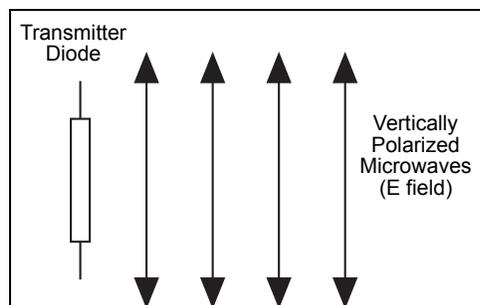
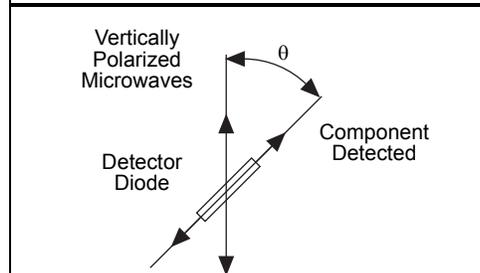

Figure 5.1: Vertical Polarization
Figure 5.2: Detecting Polarized Radiation
The microwave radiation from the Transmitter is linearly polarized along the Transmitter diode axis (i.e., as the radiation propagates through space, its electric field remains aligned with the axis of the diode). If the Transmitter diode were aligned vertically, the electric field of the transmitted wave would be vertically polarized, as shown in Figure 5.1. If the detector diode were at an angle θ to the Transmitter diode, as shown in Figure 5.2, it would only detect the component of the incident electric field that was aligned along its axis.
1. If the Receiver meter reading (**M**) were directly proportional to the electric field component (**E**) along its axis, the meter would read the relationship $M = M_0 \cos\theta$ (where θ is the angle between the detector and Transmitter diodes and M_0 is the meter reading when $\theta = 0$). (See Figure 5.2). Graph your data from step 2 of the experiment. On the same graph, plot the relationship $M_0 \cos\theta$. Compare the two graphs.
4. Can you explain the results of step 6 of the experiment. How can the insertion of an additional polarizer increase the signal level at the detector? (HINT: Construct a diagram like that shown in Figure 5.2 showing (1) the wave from the Transmitter; (2) the wave after it passes through the Polarizer; and (3) the component detected at the detector diode.)